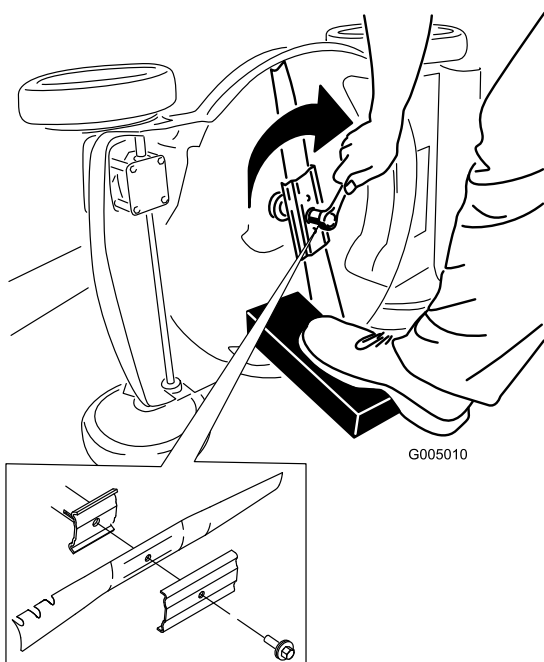

Figure 28
5. Install the new blade and all mounting hardware (Figure 28).